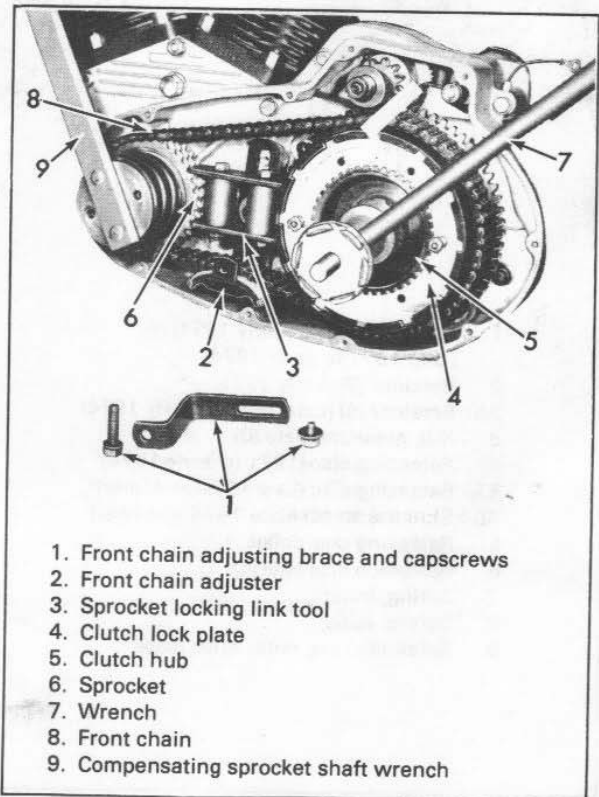
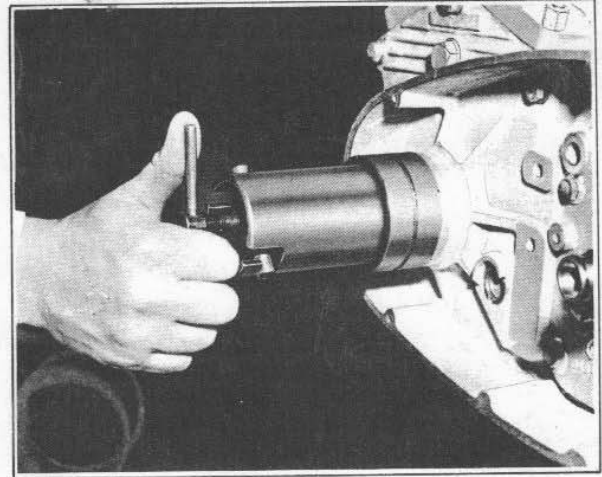

Figure 4-11. Removing and Installing Clutch Hub Nut and Compensating Sprocket Nut
Figure 4-13. Removing Sprocket Shaft Extension
See Figure 4-11. Remove front chain adjuster brace and three front chain adjuster capscrews (1). This will leave the chain adjuster (2) loose behind the front chain. Install Sprocket Locking Link Tool (3), Part No. 97200-55, between engine sprocket teeth and clutch sprocket teeth to prevent clutch and compensating sprocket from turning.
Insert Clutch Lock Plate (4), Part No. 97173-71, between clutch hub (5) and sprocket (6) as shown in Figure 4-11. Bend ears of lockwasher (15, Figure 4-9) away from hub nut. Remove clutch hub nut (14), using Wrench (7), Part No. 94647-52 (see Figure 4-11).
Using Compensating Sprocket Shaft Wrench (9, Figure 4-11), Part No. 94557-55, remove shaft nut as shown in Figure 4-11, and in one move, free clutch shell, front chain and engine sprocket.
Install clutch hub on clutch gear splines. Install Lock Plate, Part No. 97173-71, and Sprocket Locking Link Tool, Part No. 97200-55, as shown in Figure 4-11.
Install a new lockwasher (15) over clutch gear splines and install hub nut (14) using Wrench, Part No. 94647-52, as shown in Figure 4-11. Follow up hand tightening by striking wrench handle with a soft mallet to securely seat nut to at least 150 ft-lbs torque. Bend ear of washer (15) against hex head of hub nut. Clutch hub must run free on shaft after tightening.
Loosen clutch sprocket and front chain as described in "DISASSEMBLING CLUTCH." Then remove compensating sprocket shaft nut (1), using Shaft Nut Wrench, Part No. 94557-55, as shown in Figure 4-11. Remove spring (2), sliding cam sleeve (3), sliding cam (4), sprocket (5), front chain and clutch shell together. Use Sprocket Shaft Extension Puller, Part No. 96015-56, to remove extension (6) from sprocket shaft if necessary (see Figure 4-13).
Install sliding cam (4) on extension (6), being very careful to correctly match like splines to ensure free movement of cam on extension. Assemble parts (3, 2 and 1). Tighten sprocket shaft nut (1) securely, using Compensating Sprocket Shaft Wrench, Part No. 94557-55. (See item 9, Figure 4-11).